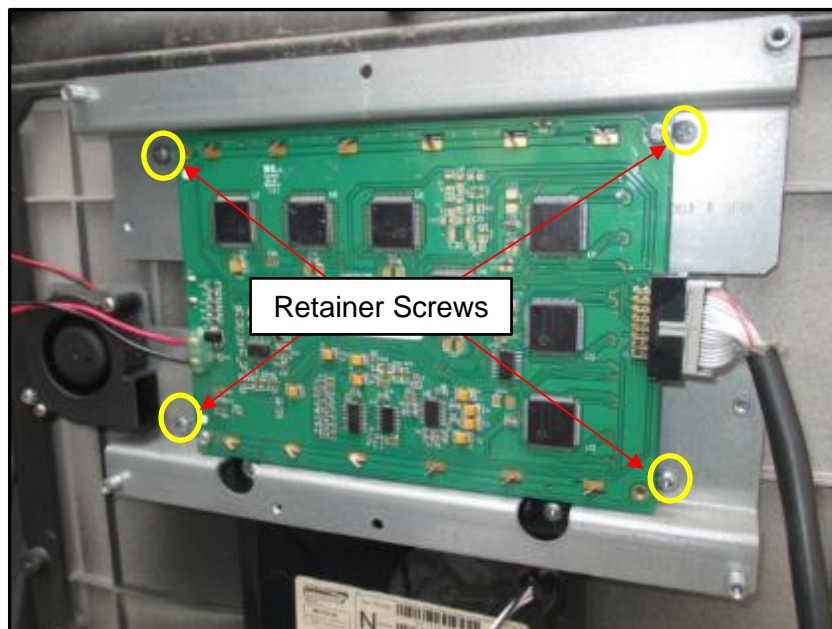

Fig 10 – Backside of QVGA retainer bracket and customer LCD display
- 2) Remove and discard the four #6 1/4" screws that fasten the QVGA retainer bracket and QVGA display glass to the door assembly. Remove the retainer bracket, customer LCD Display, and display glass, they can be discarded and will not be re-installed. (Fig 10, & 11)